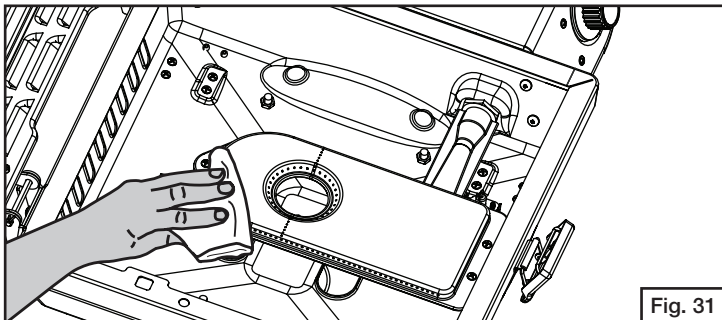

Fig. 31
- Wipe clean with soft cloth and mild dish detergent. Do not use abrasives. (Fig. 31)